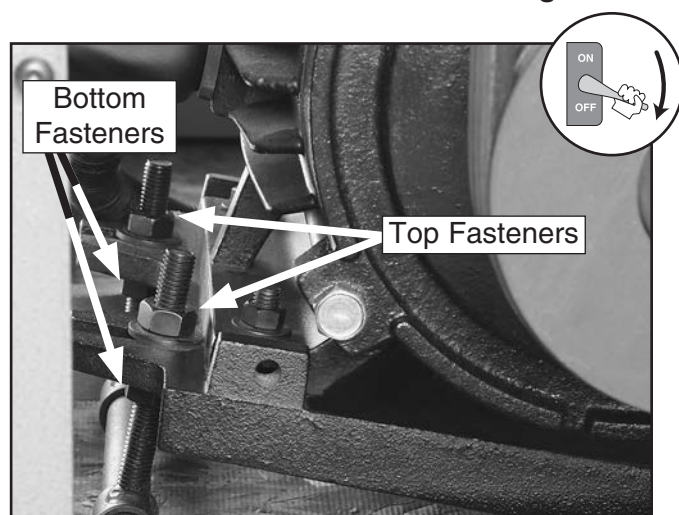

Figure 27. Cutterhead/feed motor tension rod fasteners (bottom left access panel removed).
3. Loosen the top fasteners on the cutterhead/feed motor tension rods shown in **Figure 27**.
1. Loosen the top tension rod fasteners shown in **Figure 27**, then lower the bottom fasteners at least one inch.